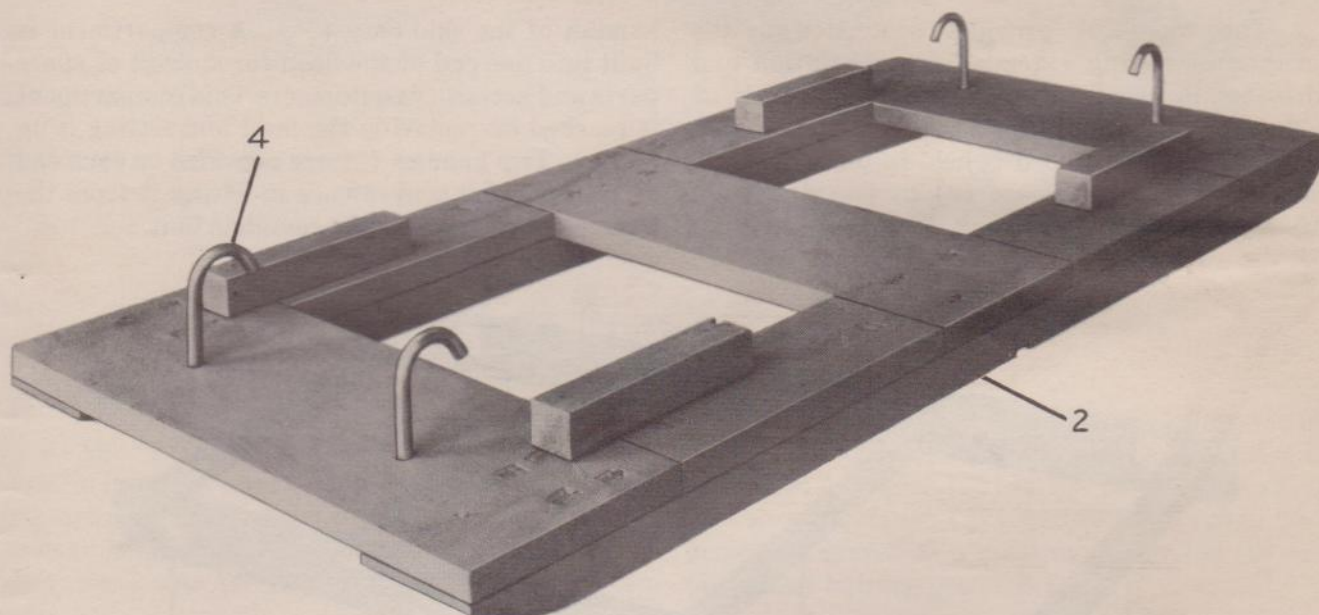
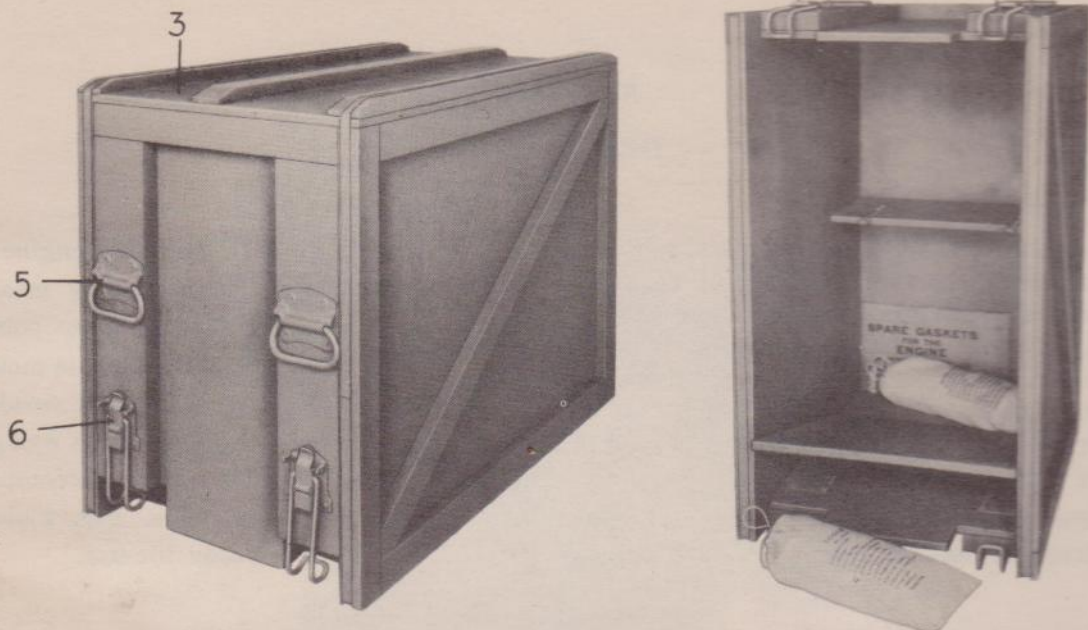

FIG. 2 HOOD BASE WITH "J" BOLTS
FIG. 3 HOOD—EXTERIOR AND INTERIOR SHOWING COMPARTMENT WITH DOOR OPEN
b. The complete Power Unit PE-49-F is enclosed within a rugged, removable hood (3) and a sturdy base (2) which also serves as a support for the skid-base (20) of the unit during transportation. See Figs. 2 and 3.
(1) The hood (3) and hood base (2) are both constructed of well seasoned wood fastened together with resin-coated nails that are clinched to insure a permanent assembly.
c. To loosen the hood from base, unlatch the four draw bolts (6) by pulling each thumb latch all the way out and down. Lift the hood clear of the power unit.
d. Whenever the Power Unit PE-49-F is to be transported a considerable distance by train or truck, the hood (3) must be in place for protection against bad weather and dirt. Weight of the unit including the hood is 300 pounds.
e. After removing the hood, the contents of the storage compartment should be checked. This check must be made before leaving the base. The compartment can be readily reached by setting the hood up on end as shown in Fig. 3. It should contain the following items:
(1) There are four "J" bolts (hooks) (4) which hold the skid-base (20) to the hood base (2). See Figs. 2 and 4. These "J" bolts are fastened to the hood base with nuts which can be reached on the under side of each end of the base.